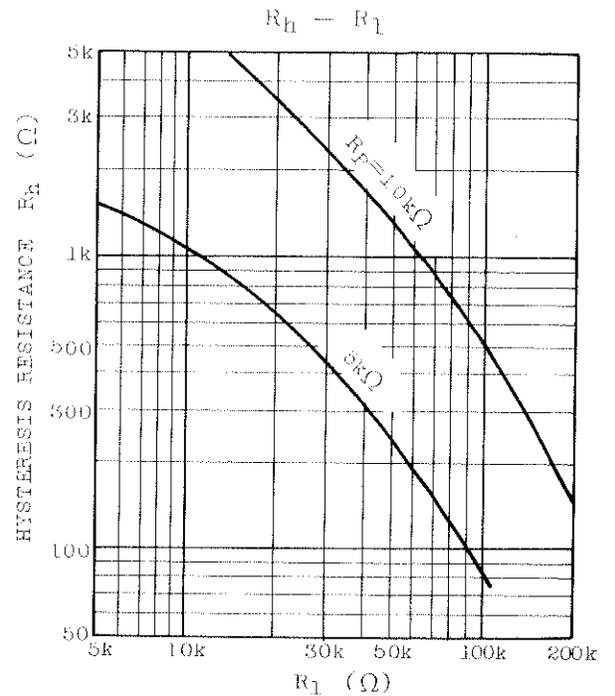

Fig.2 (b)
- . The value of  $R_1$  can change hysteresis shown in Fig.2 (b).